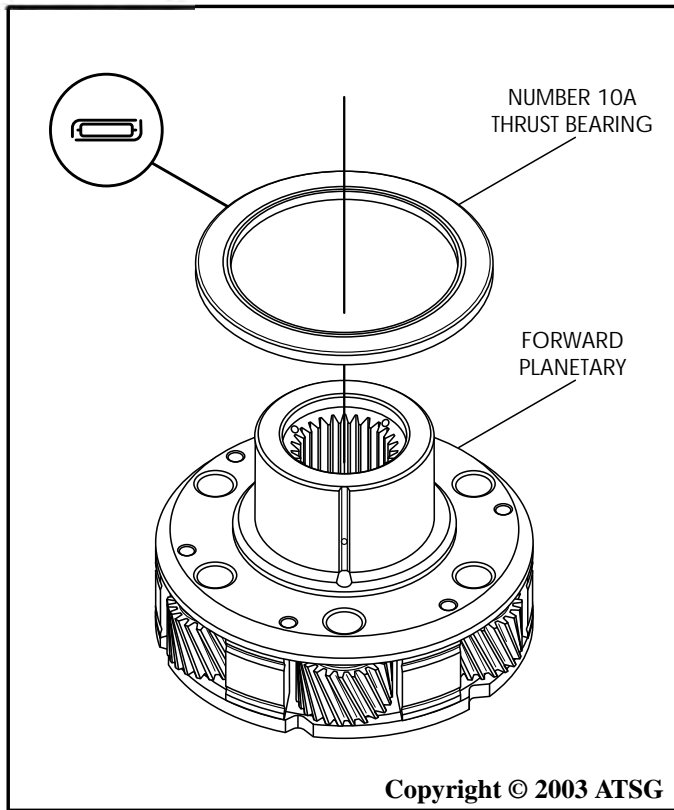

Figure 127
7. Install the number 10A thrust bearing onto the forward planetary carrier, in the direction that is shown in Figure 127, and retain the bearing with Trans-Jel®.